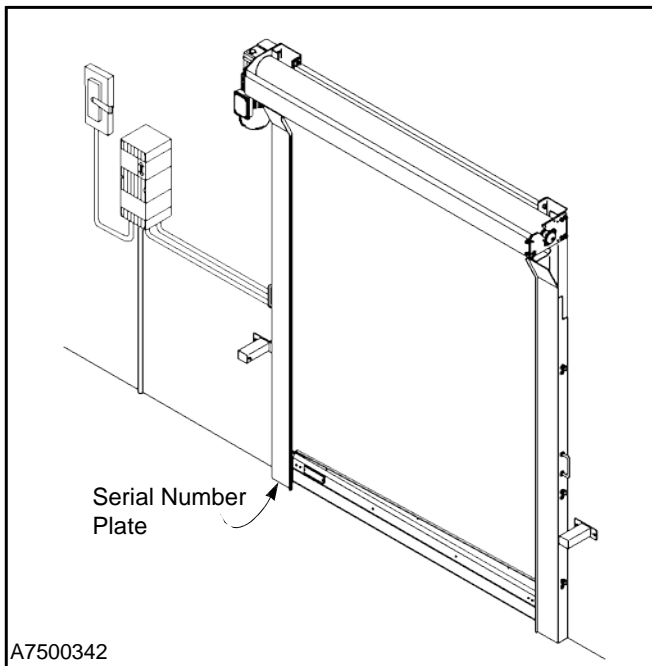

Figure 56
3. To ensure the correct parts are shipped, please include the serial number of your door with the order. The serial number is located on the control panel or left side column. (See Figure 56.)